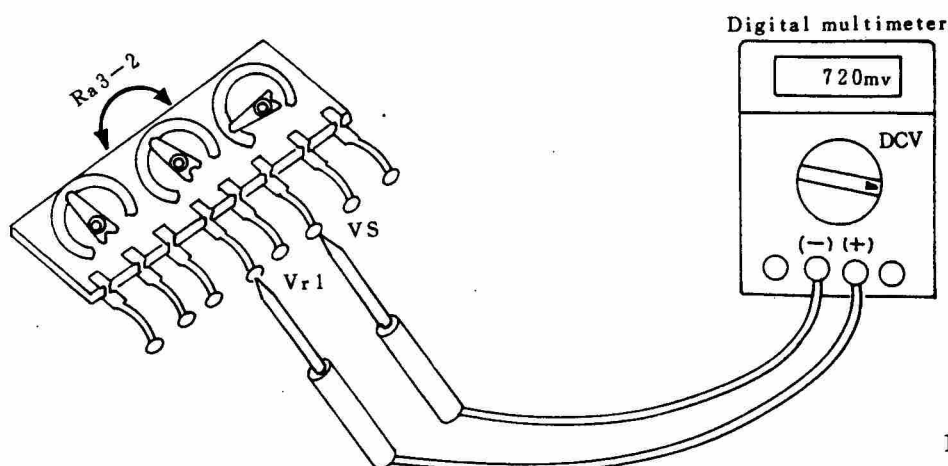

Fig 58
- ② Connect (+) of digital multimeter to Vr1, (-) of digital multimeter to Vs, and then read the voltage. See (Fig 58)